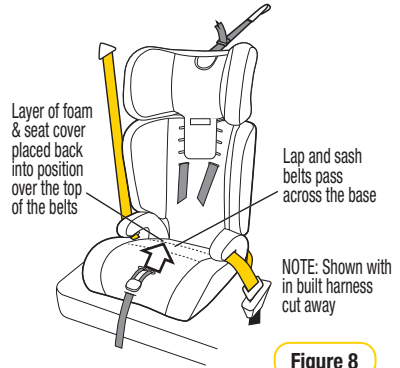

Figure 8
**Step 4:** Place layer of foam and seat cover back into position over the top of the vehicle belt (refer Figure 8).